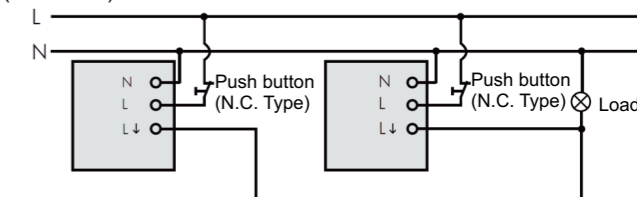

FIG. 5
3.3.2 One load is controlled by two detectors to enlarge detection range (See FIG.5).